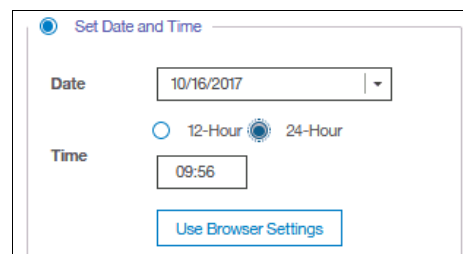

Figure 7-42 Set Date and Time window
- If you are not using a Network Time Protocol (NTP) server, select **Set Date and Time**, and then manually enter the date and time for your system, as shown in Figure 7-42. You can also click **Use Browser Settings** to automatically adjust the date and time of your FS9100 system with your local workstation date and time.